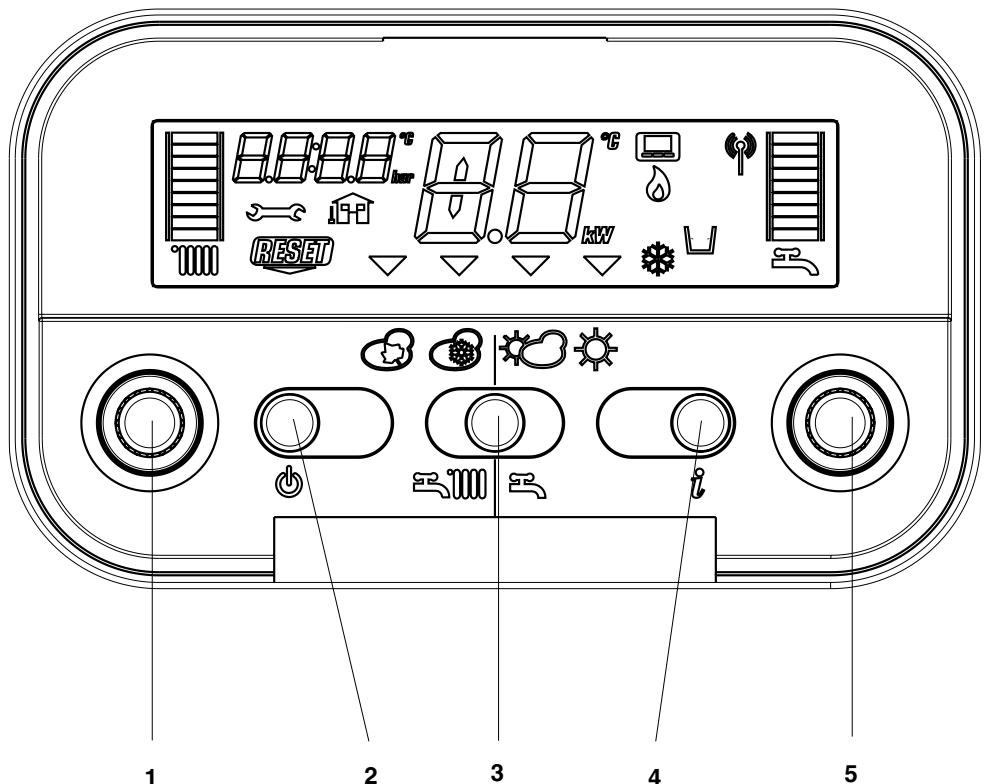

Fig. 1
2.2 APPLIANCE CONTROLS (see fig. 1)
Using figure 1 as a guide, locate and press the ON/OFF selection button if the appliance isn't already switched on. The boiler will now go through a self-test sequence. On completion of the self-test sequence, the boiler will be ready to provide heating and/or hot water if required.
2.4 ADJUSTING THE OPERATING TEMPERATURES (see fig.1)